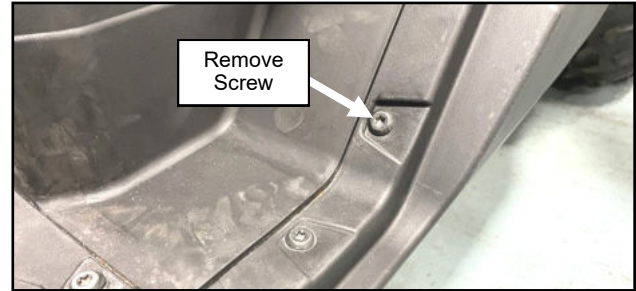

Fig. 1.1 (Remove Screw, Left side of Vehicle)
1.1 Per figure 1.1, remove and set aside screw on both the left and right side of the vehicle.